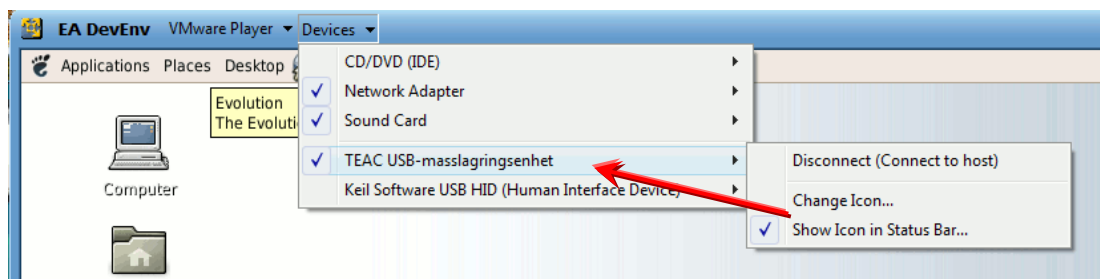

Figure 27 SanDisk Removable Disk Available in VMware Player
4. Make sure that the virtual machine has access to the memory card by looking at the VMware Player toolbar, see section 8.3 for an explanation and Figure 27 of what it could look like.